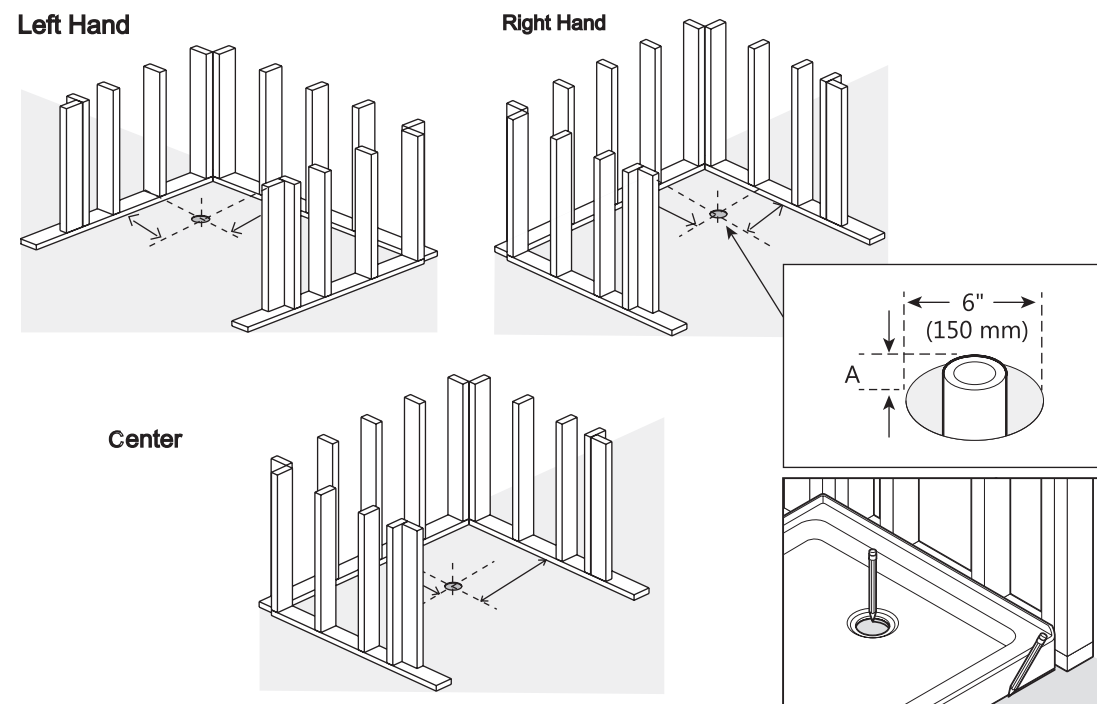

Fig. 1
- These marks are used to verify base location after the drain is installed. (Fig 1)
- The pipe height (A) shall be determined according to the products on hand.